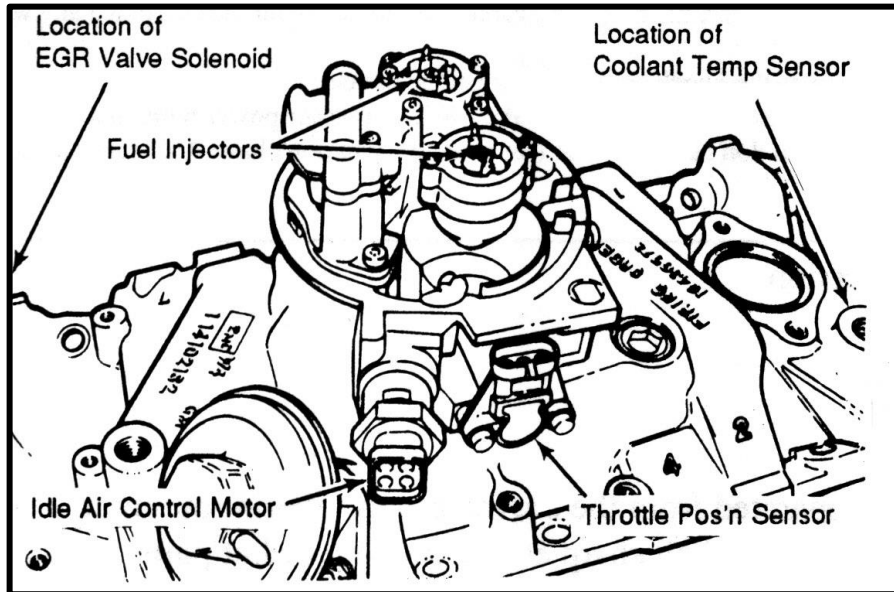

Figure 6.4 Throttle Body Injection Unit
- B. Starting at the rear of the engine, using **Figure 6.4, Table 6.2**, and the specific illustrations indicated in **Table 6.2**, begin attaching the connectors to their proper places and THEN secure the harness to the engine when ready.
NOTE: If the throttle position sensor on your throttle body is different from the one illustrated in Figure 6.4, an adapter is in the kit.